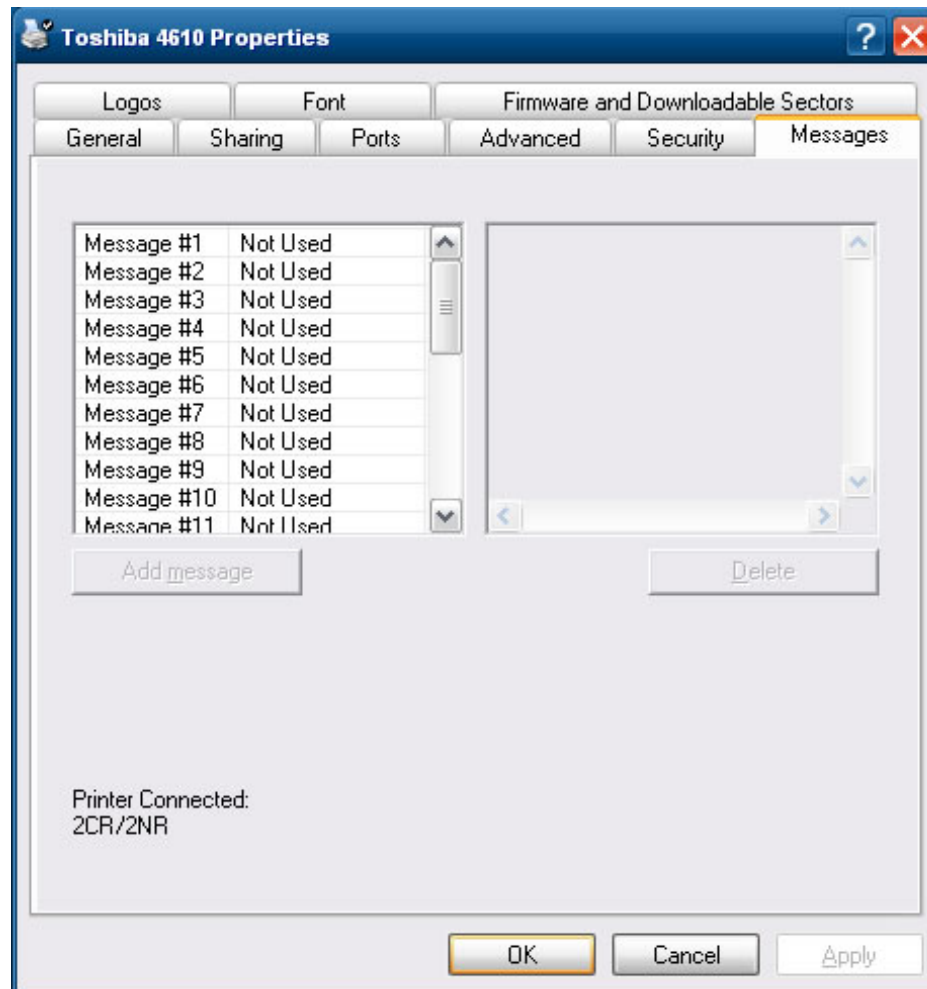

Figure 43. Creating a message (1 of 2)
3. Click the **Messages** tab (see Figure 43).